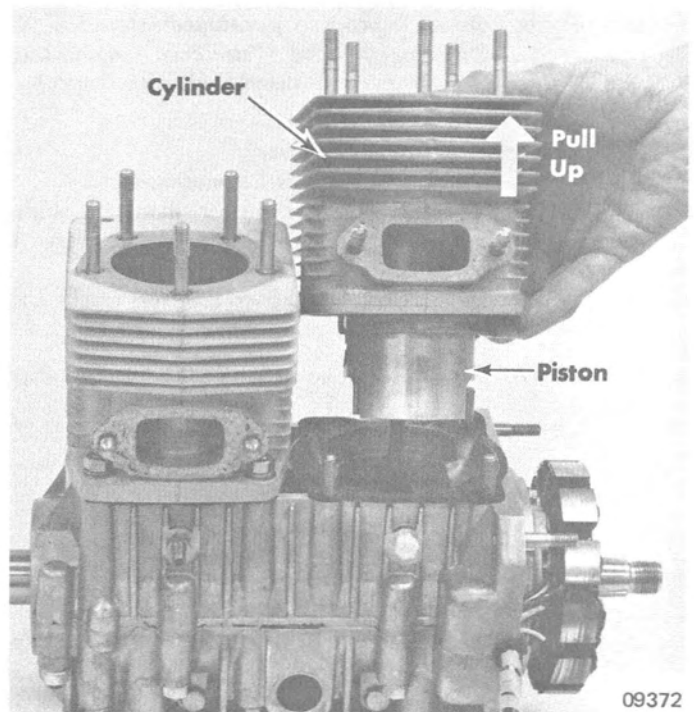

Figure 2. Removing Cylinders
9. Lift cylinders off crankcase and pistons. (Figure 2)